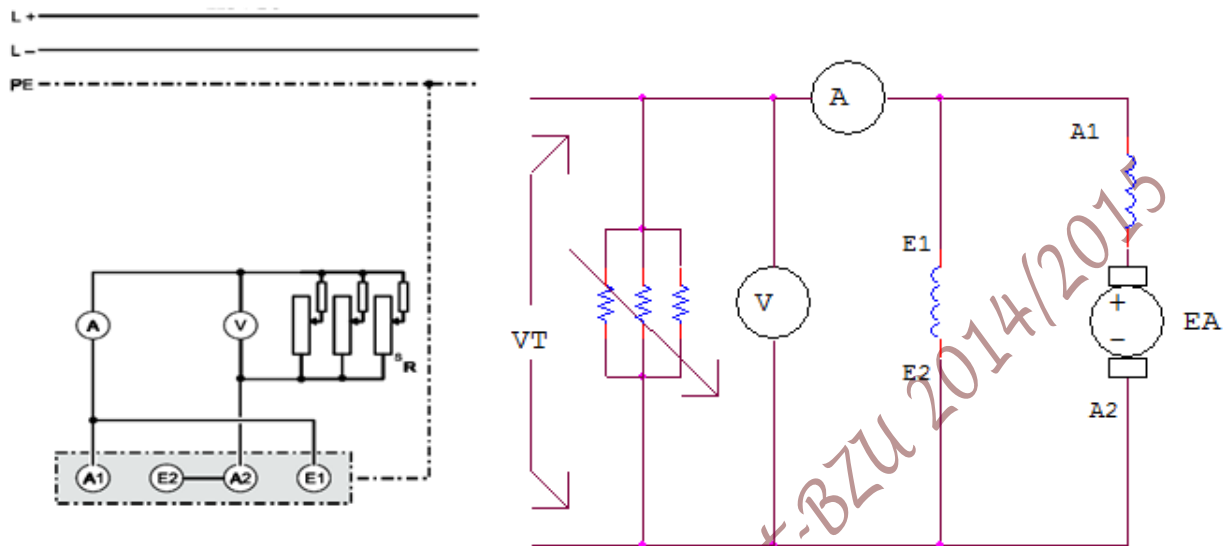

Figure 10.5: Self-Excited Shunt wound generator circuit for recording load characteristics
19. Change the circuit to match Figure 10.5